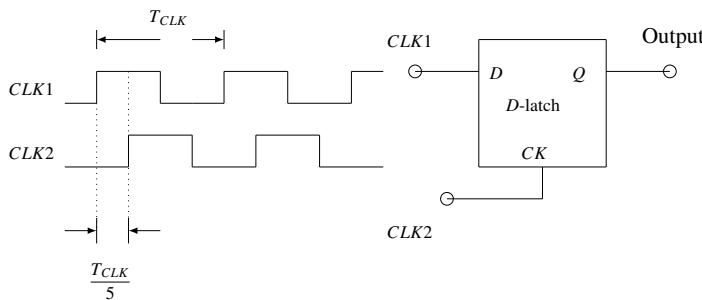

Fig. 5.14
14. Consider the  $D$ -Latch shown in Fig. 5.14, which is transparent when its clock input  $CK$  is high and has zero propagation delay. In the figure, the clock signal  $CLK1$  has